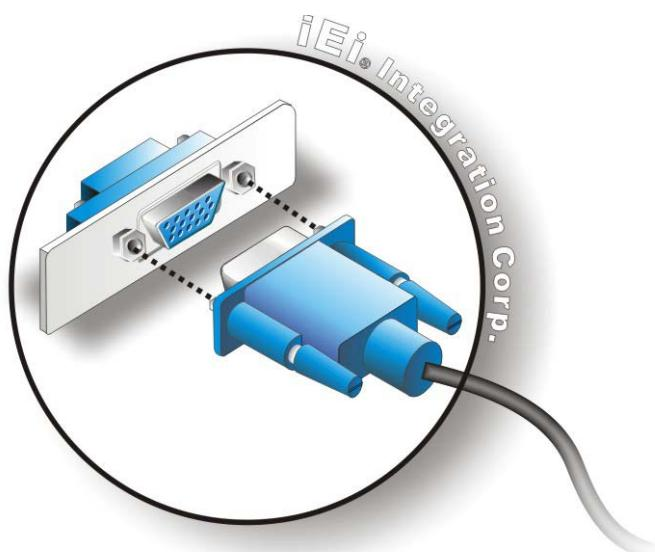

Figure 3-23: VGA Connector
Step 3: Insert the VGA connector Once the connectors are properly aligned with, insert the male connector from the VGA screen into the female connector on the TANK-860-HM86 Series. See **Figure 3-23**.